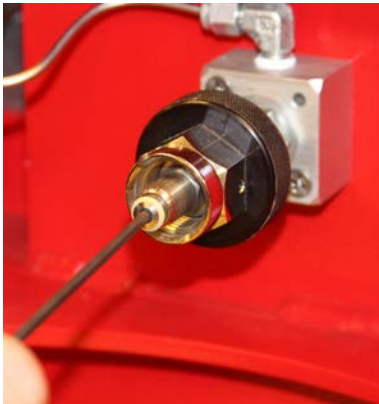

Figure 4.9-1:
1. Using a 1/8th inch Allen wrench remove the nipple O' ring retaining screw (P/N 10000113). See Figure 4.9-1.